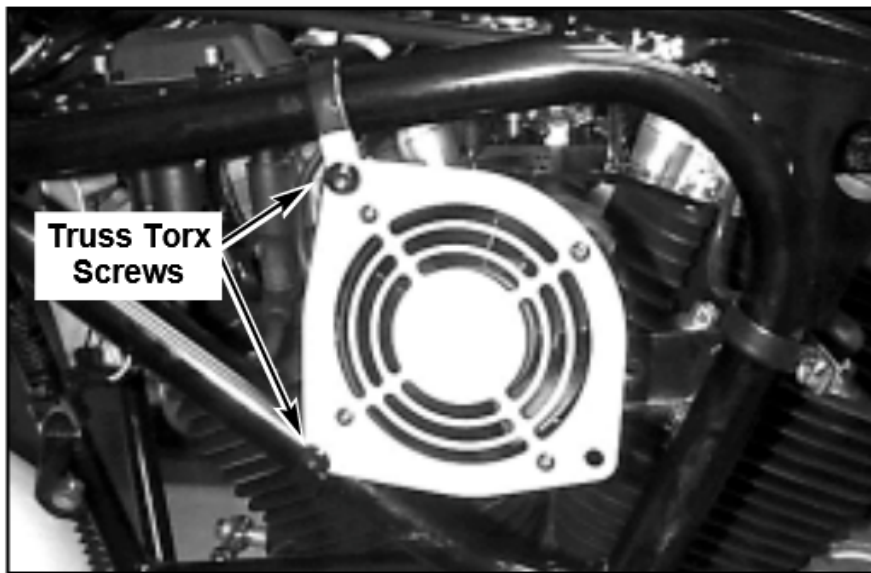

Figure 3. Install Fan Assembly to Frame Brackets
- See Figure 3. Install assembled fan bracket to frame using clamps installed in prior step and truss Torx screws (P/N AA0406.11CBL). Secure fasteners but do not tighten completely at this time.